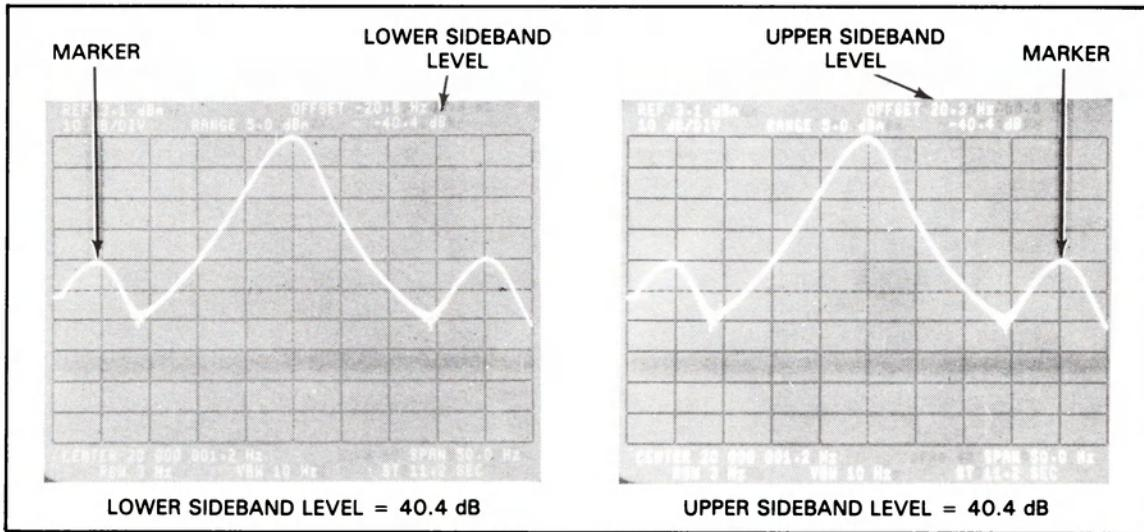

Figure 7-20. Upper and Lower AM Sideband Relative Levels
- h. Measure the upper and lower sidebands and record their relative levels (dBc) on the Performance Test Record card for the 20 Hz, 2 Hz, and 0.2 Hz sideband frequencies. (See Figure 7-20)